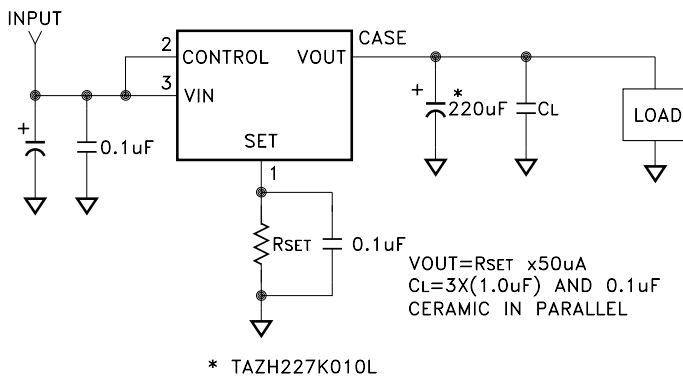

FIGURE 1
- ① Output is decoupled to ground using a 220µF tantalum low ESR capacitor in parallel with 3 pieces of 1.0µF and one 0.1µF ceramic capacitor unless otherwise specified. (See Figure 1)
- ② Guaranteed by design but not tested. Typical parameters are representative of actual device performance but are for reference only.
- ③ Logic input levels are verified during logic output voltage test.
- ④ Industrial grade devices shall be tested to subgroup 1 unless otherwise requested.
- ⑤ Subgroup 1 TA = TC = +25°C